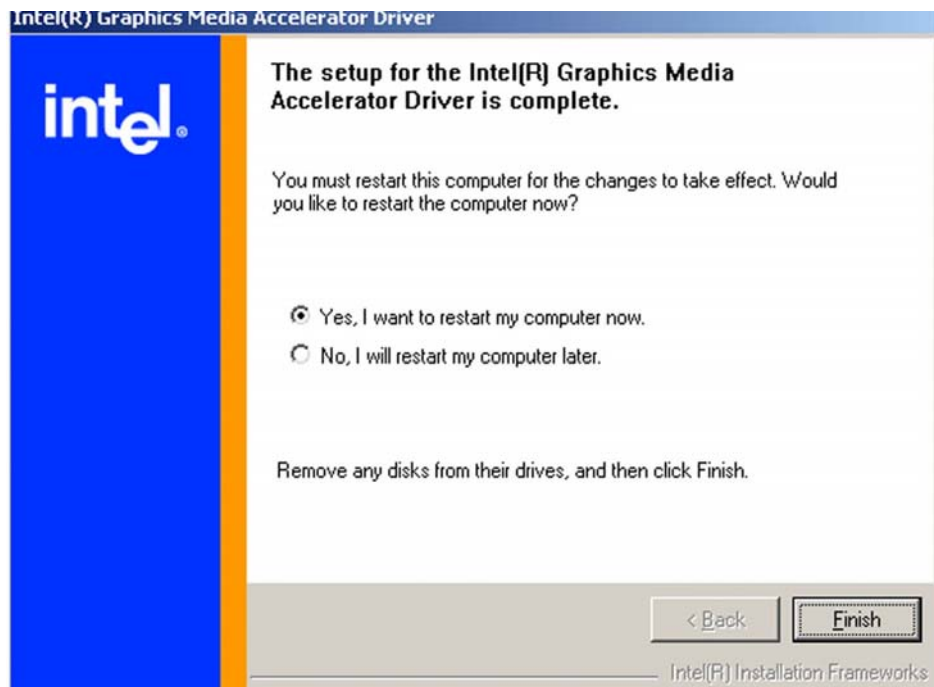

Figure 6-11: GMA Driver Installation Complete
Step 7: After the driver installation process is complete, a confirmation screen shown in **Figure 6-11** will appear.
Step 8: The confirmation screen shown in **Figure 6-11** allows you to restart the computer immediately after the installation is complete or to restart the computer later. For the settings to take effect the computer must be restarted. Once you have decided when to restart the computer, click the **FINISH** button.